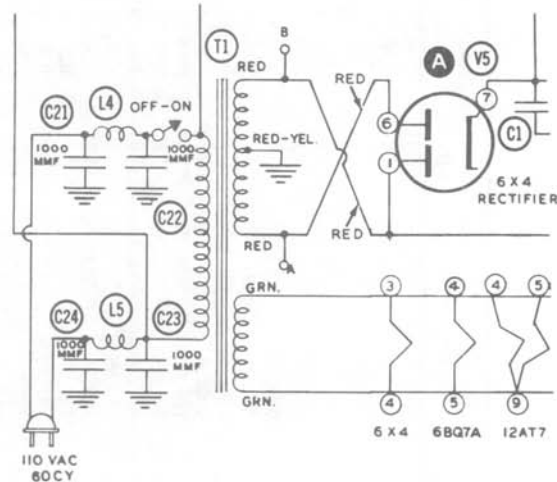

Figure 29
- ( ) Reverse the connection of these two red leads as shown in Figure 29. This will reverse the sweep so the markers will appear on the correct portion of the waveform.